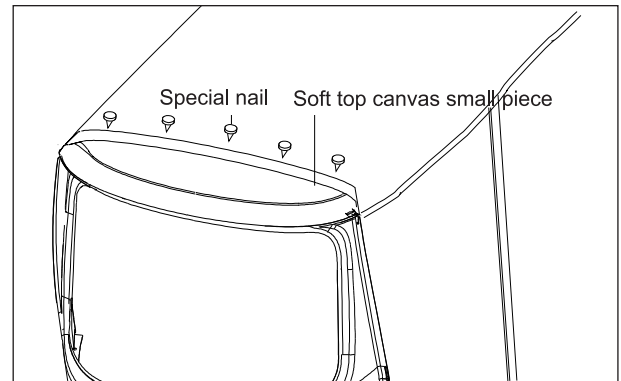

Fig. 9.21
- Pull the soft top canvas small piece at wood stick middle soft top in respective interval as required. (Fig. 9.21)